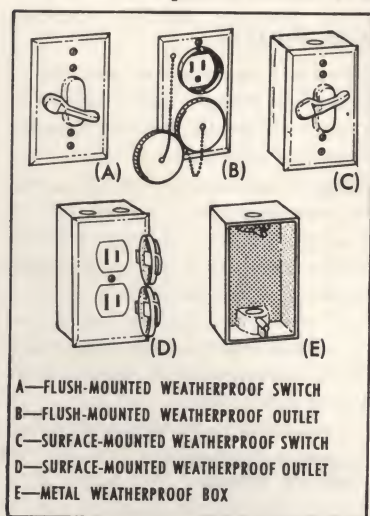

FIG. 104—MATERIALS FOR OUTDOOR WIRING
**GROUNDING WEATHERPROOF OUTLETS.** Power is supplied to outdoor cooking appliances, lighting fixtures and garden tools from flush-mounted weatherproof outlets located on the buildings (Fig. 104-B). Lawn mowers, spike lights, heating tape for hotbeds or snow melting may be connected to conveniently located weatherproof surface-mounted outlets on posts or conduit stubbed up through the ground. (See Fig. 107.)